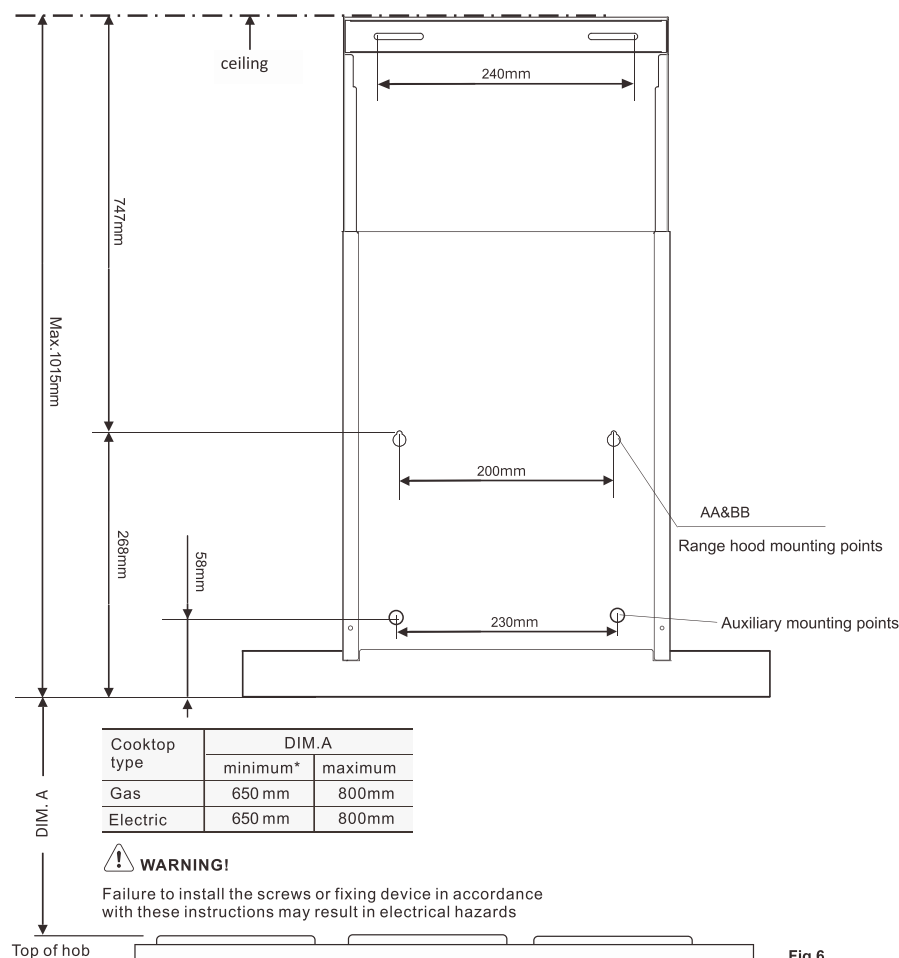

Fig. 6
2. Mark the location for flue cover wall mounting brackets and cooker hood mounting points above the hood base as the reference point (Fig.6).